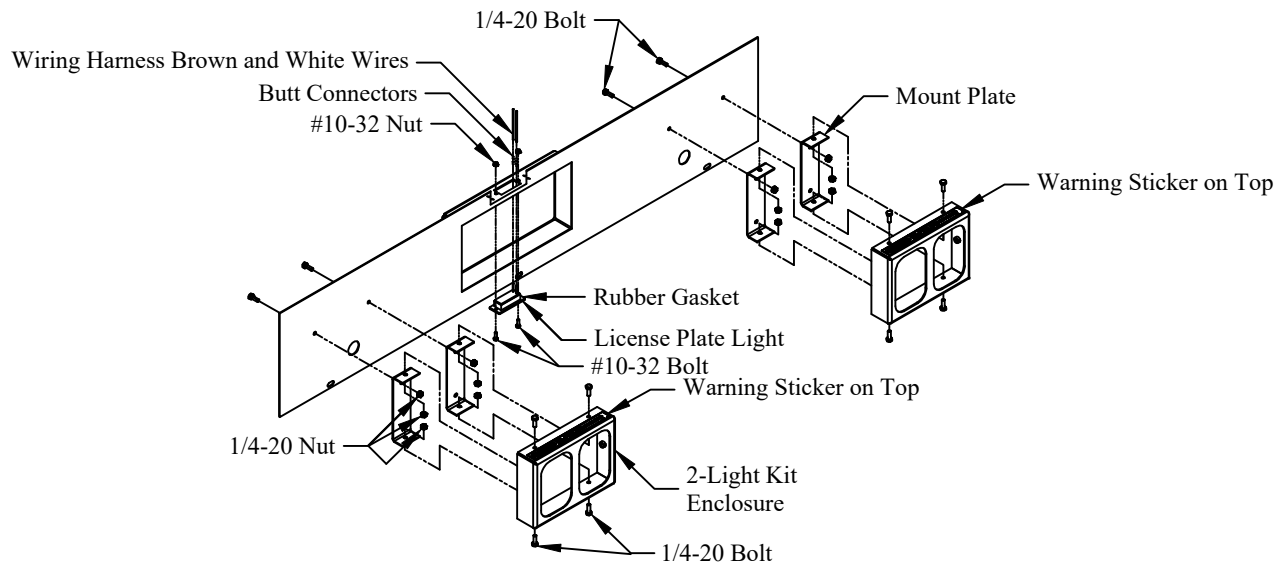

Figure 6: Box Cover Assembly
1. **Loosely Attach** two (2) mount plates to the back of each enclosure using two (2) 1/4-20 nuts and bolts per mount plate (Figure 6).
2. **Loosely Attach** each enclosure to the box cover using one (1) 1/4-20 nut and bolt through the upper hole of each mount plate (Figure 6).
- Note: Ensure the warning stickers are on top (Figure 6).
3. **Tighten** the twelve (12) nuts and bolts attached in steps 1 and 2.
4. **Ensure** the rubber gasket is in place on the license plate light (Figure 6).
5. **Mount** the license plate light using two (2) #10-32 nuts and bolts (Figure 6).
5. **Splice** the license plate light wires to one pair of the blunt-cut white and brown wires (Figure 6).